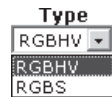

Figure 6-11 — Type drop box
1. Click the Type field. A drop down box appears (figure 6-11).